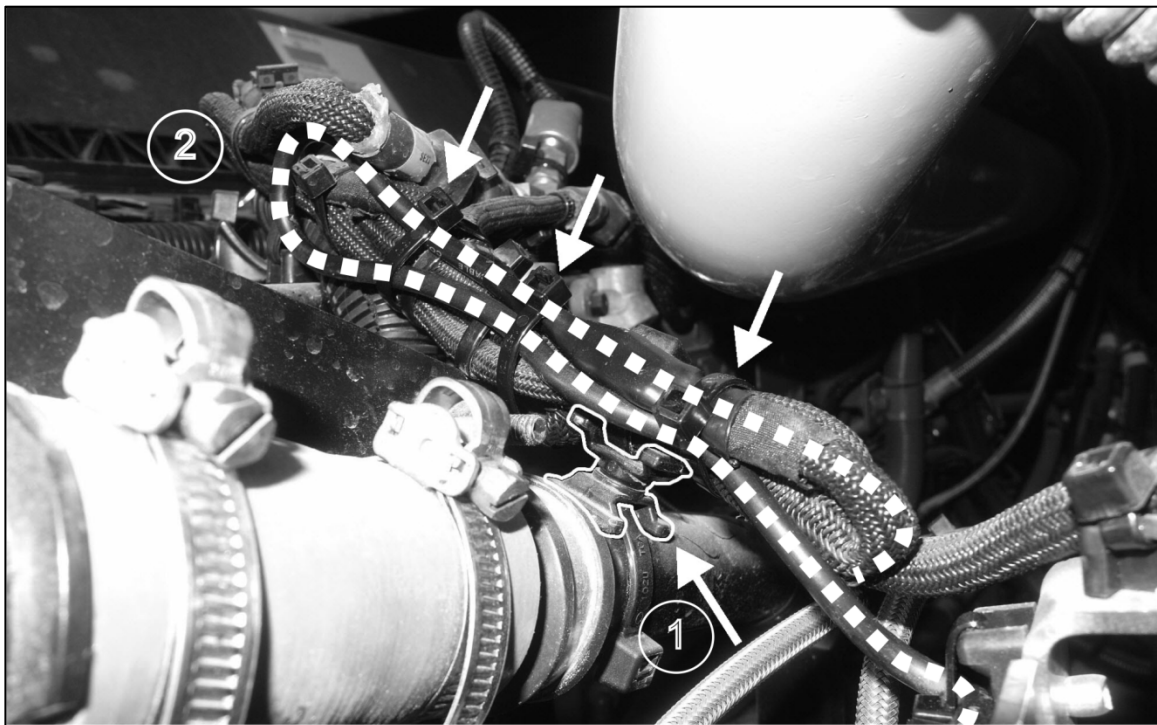

Figure 20- Cable tie base and clutch cable.
- 2.13.8. Attach clutch cable along bracket as shown.(fig. 20)
Connect low pressure hose on port where SE24 was installed. High pressure hose is connected where SE29 was installed. (Fig 20, 21)